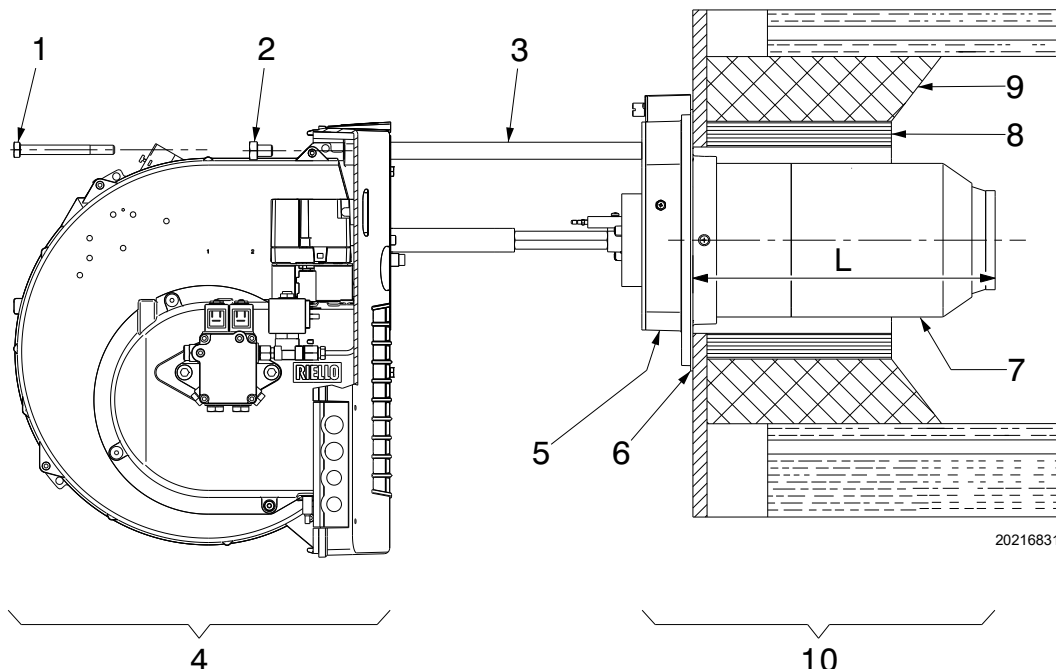

Fig. 10
Protective fettling in refractory material 8)(Fig. 10) must be inserted between the boiler's fettling 9) and the blast tube 7).
- If it proves necessary to change the nozzle with the burner already fitted to the boiler, open the burner on the slide bars as shown in Fig. 10, pag. 13, after having mounted the extensions 16)(Fig. 5, pag. 10), and proceed as described above.